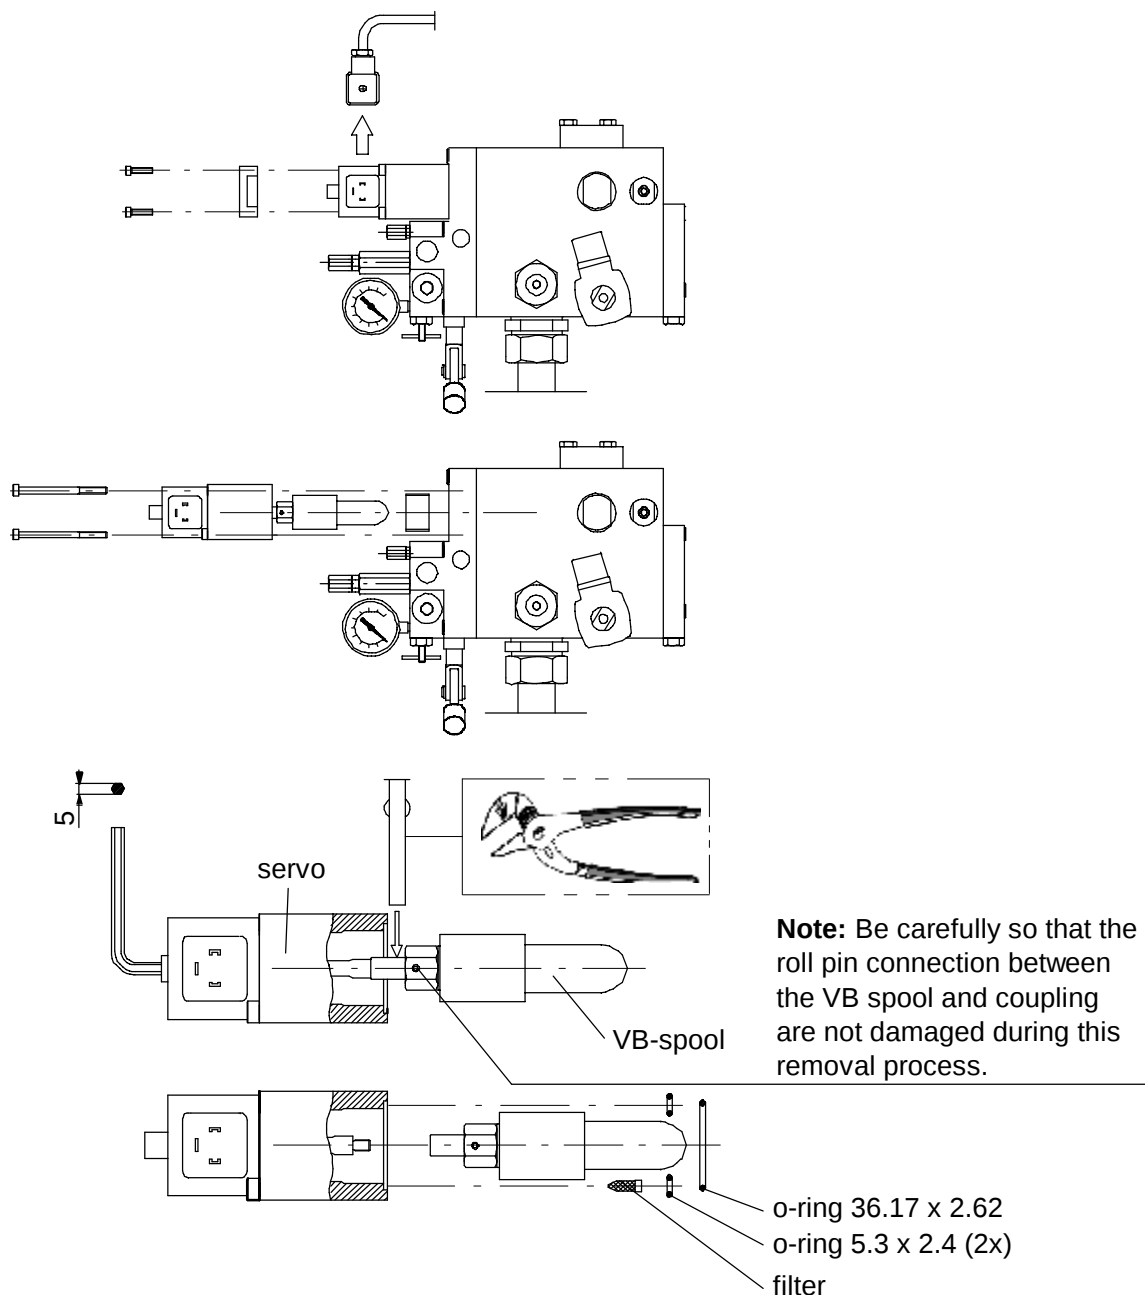
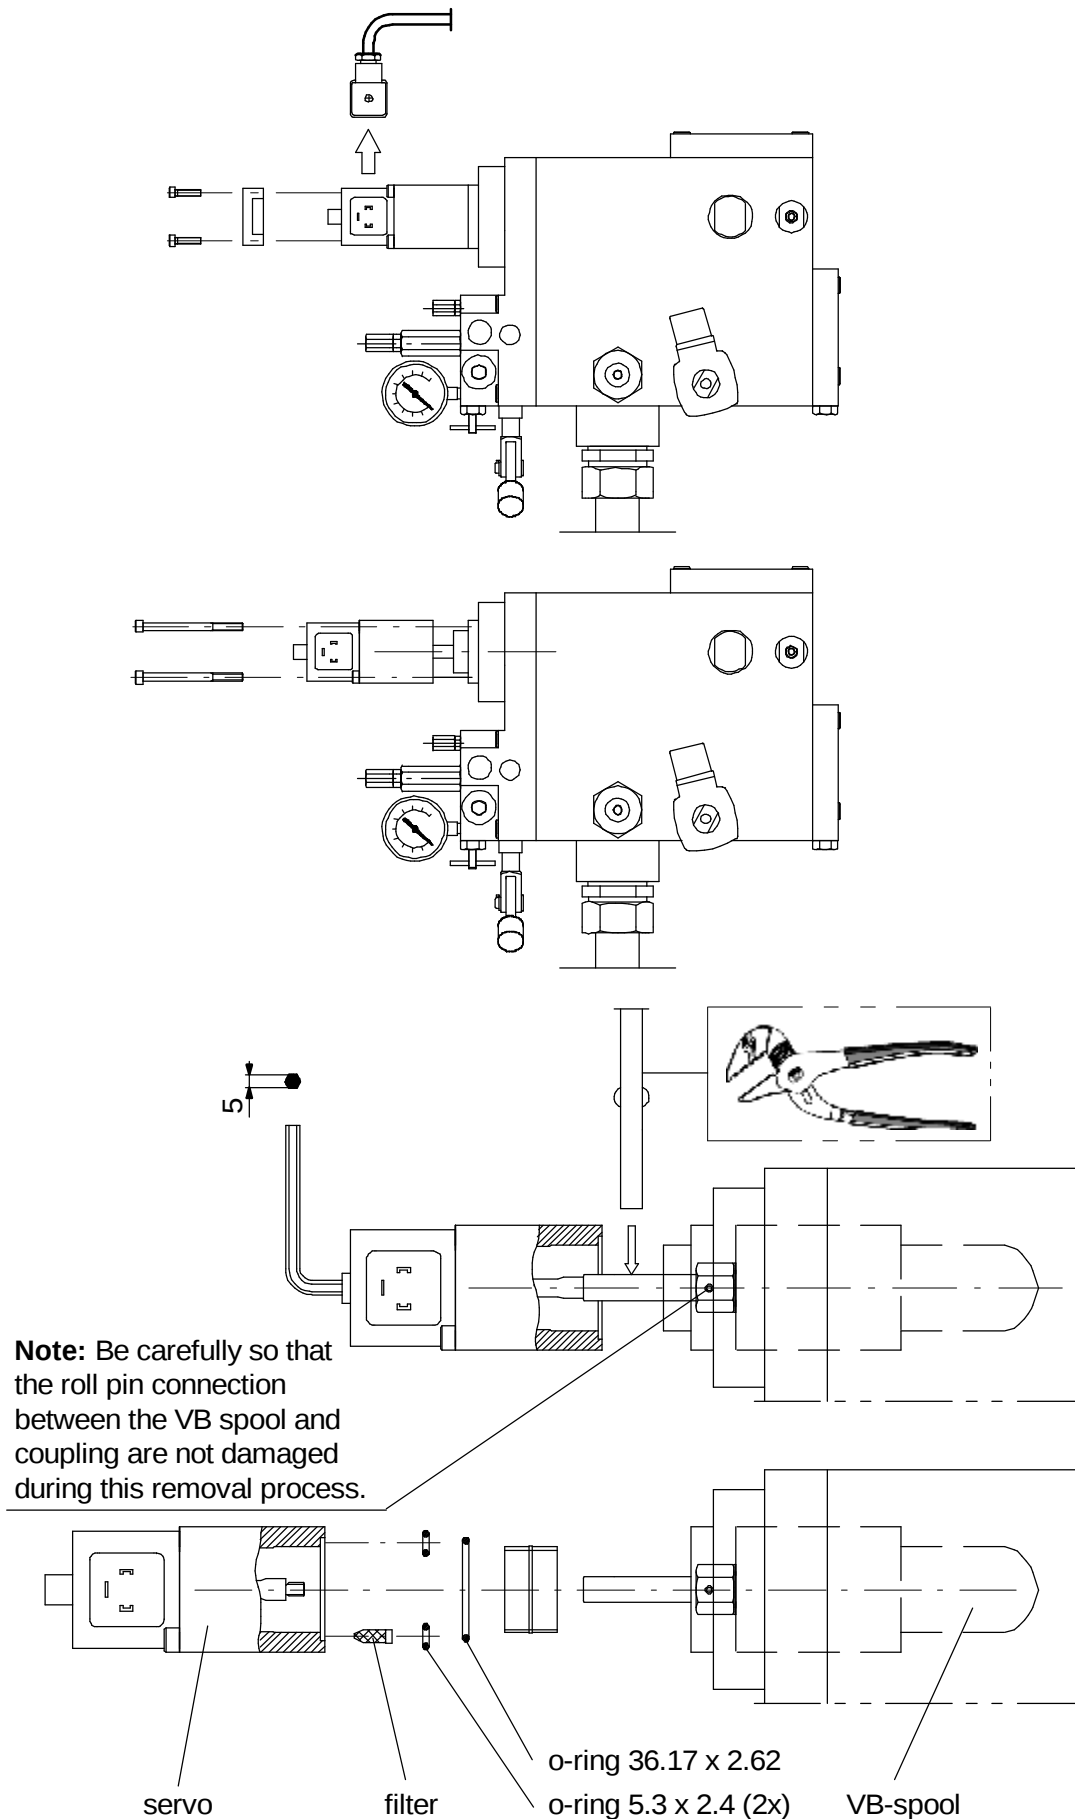

Fig. 10.5 Exchange of servo valve (Valve size 52-216 l/min)
Fig. 10.6 Exchange of servo valve (Valve size 250-600 l/min)
3. Remove the servo valve according to Fig. 10.5 (valve size 52-216 l/min) or Fig. 10.6 (valve size 250-600 l/min). The roll pin connection must not be removed. Use the pliers to hold the round bar and prevent that the roll pin connection is loaded and damaged.
2. Make sure that filter and o-rings are located in their correct positions (see Fig. 10.5 or Fig. 10.6).
3. Remove the VMD valve according to Fig. 10.6.